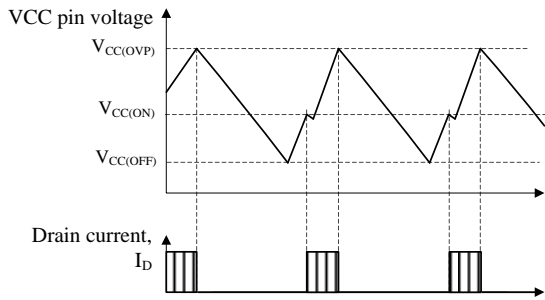

Figure 9-19 OVP operational waveforms
During OVP operation, the Bias Assist Function is disabled, the intermittent operation by UVLO is repeated (refer to Section 9.11). When the fault condition is removed, the IC returns to normal operation automatically (refer to Figure 9-19). When VCC pin voltage is provided by using auxiliary winding of transformer, the overvoltage conditions such as output voltage detection circuit open can be detected because the VCC pin voltage is proportional to output voltage. The approximate value of output voltage $V_{\text{OUT(OVP)}}$ in OVP condition is calculated by using Equation (7).